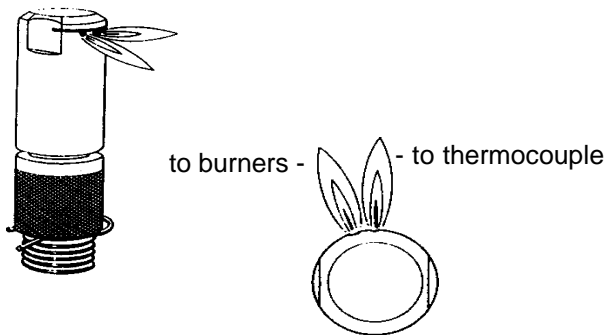

Fig. 4 Characteristic Pilot Flame
Pilot Flame: The pilot flame should burn with a clean sharp blue flame and should resemble Fig.4 below. If the flame is yellow, or if the central button Fig.2 (P) has to remain depressed for a long time in order to keep the pilot lighted, the pilot may need to be cleaned or the orifice replaced.
The pilot flame has two flames, one aimed at the thermocouple and the other aimed at an angle towards the burners (*see pilot flame diagram, Fig. 4, page 13*). It is extremely important that the flame directed on the thermocouple head be aimed right at it, and that the pilot flame be a sharp blue flame. If the pilot assembly has been taken apart for cleaning, the pilot flame may no longer be properly aimed.